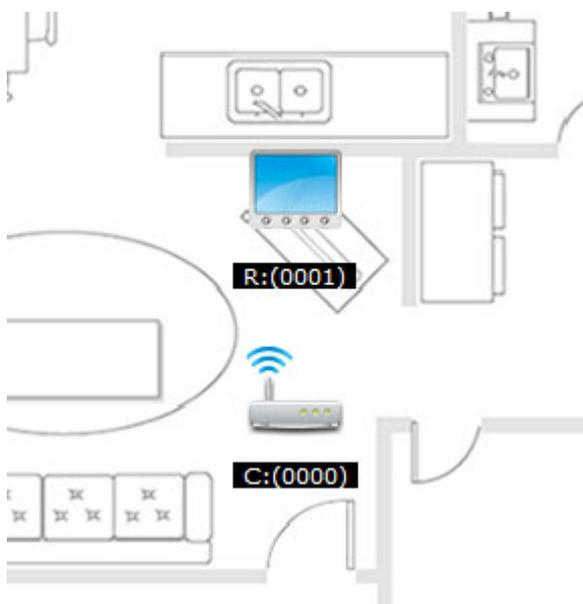

Figure 9. InPremiseDisplay Joined the Network as a New Node
4. Wait until the node is detected in the ZeD GUI where it appears as a new icon as shown in Figure 9.